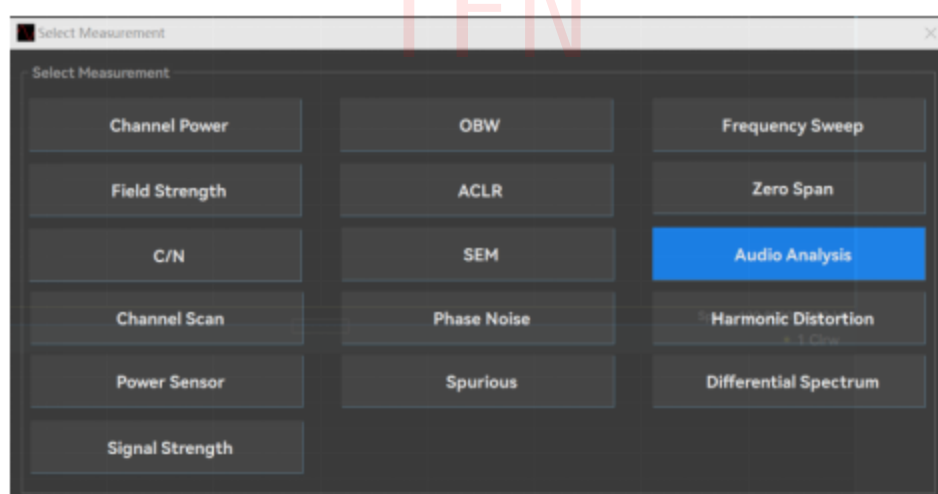

Figure 5.26 Select the measurement interface diagram
- Select [Audio Analysis] test function by [Measurement], and the interface displays as shown in Figure 5.26: